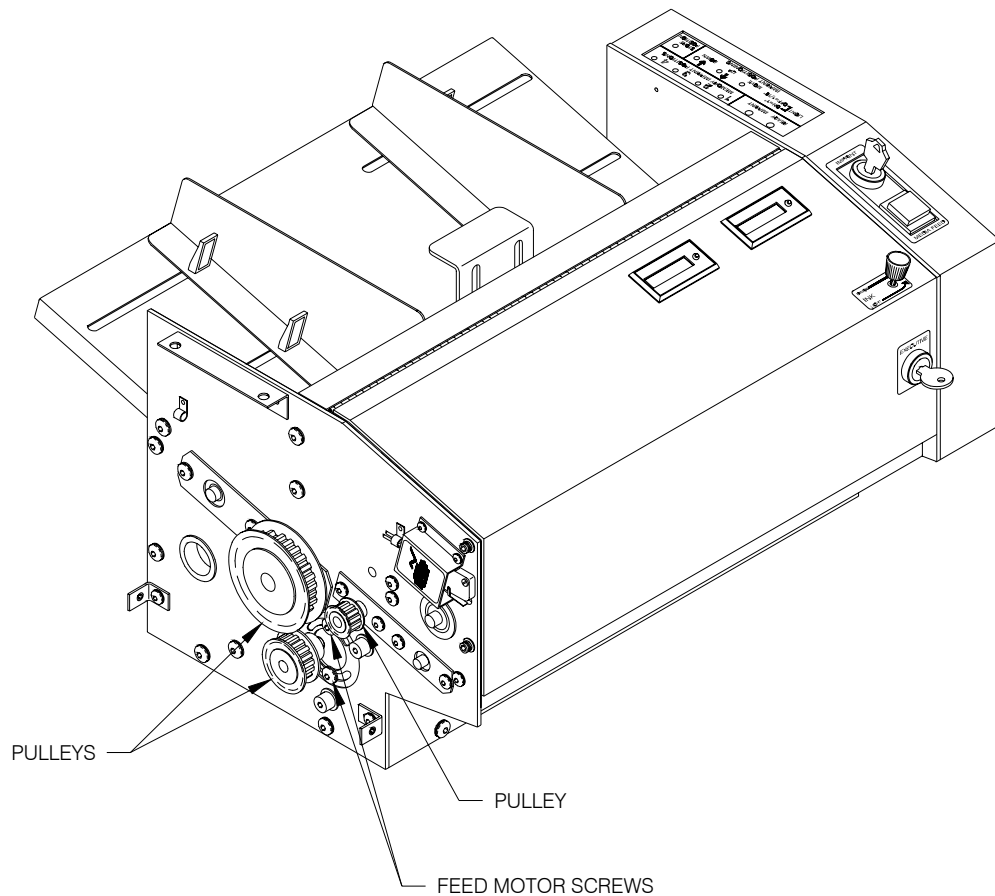

Figure 7.15 -- Feed Motor Screws & Pulleys
2. Loosen the 2 SCREWS in the FEED MOTOR (refer to **Figure 7.15**) and rotate the FEED MOTOR counterclockwise to loosen the tension on the FEED TIMING BELT.